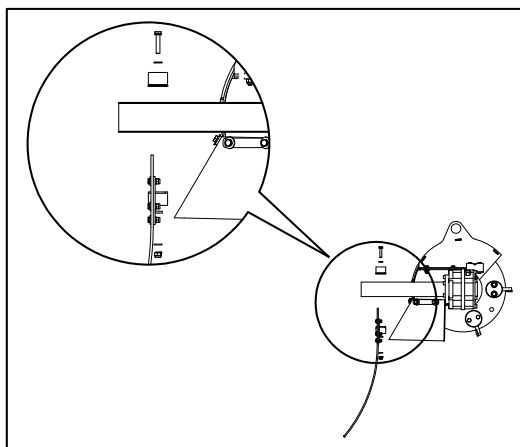

Fig. 3
- fit the front rubber guard in position and connect the lower bracket assembly with the upper one on the sleeve, by screwing the retaining screws (Fig. 3).